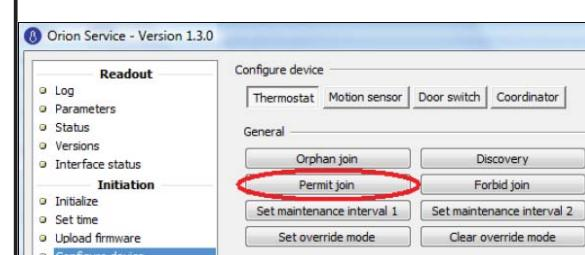

Figure 63
2. Click the **Permit Join** button in the **Configure device** section of Orion Service; see *Figure 63*.